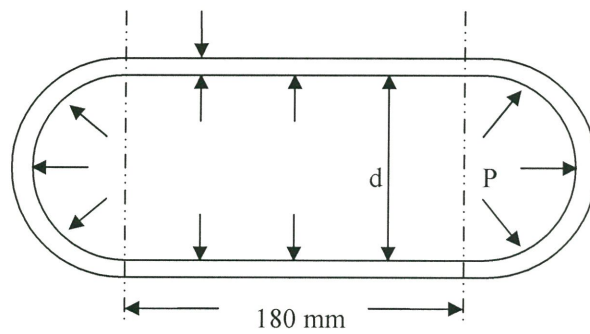

Figure Q2
- Q2.** An internal pressure, P of 20 MPa is applied to a tank with hemispherical cylinder shape as shown in **Figure Q2**. Given that the length of cylinder is 180 mm and the internal diameter, d is 120 mm. Assuming that there shall be no distortion at the junction, and the tensile hoop stress will not exceed 150 MPa. Use $E = 180$ GPa and $\nu = 0.3$.